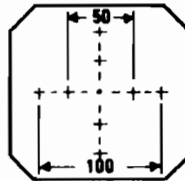

Figure 6-2.
a. General. The OV-10 sight is illuminated and non-computing, with available depression up to 270 mils. The reticle consists of a 2 mil pipper with quarter markings at 12, 3, 6, and 9 o'clock, forming 50 mil and 100 mil circles (see Figure 6-2). Directly above the sight is the depression lever with the associated indicator marked with graduations in mils times ten.